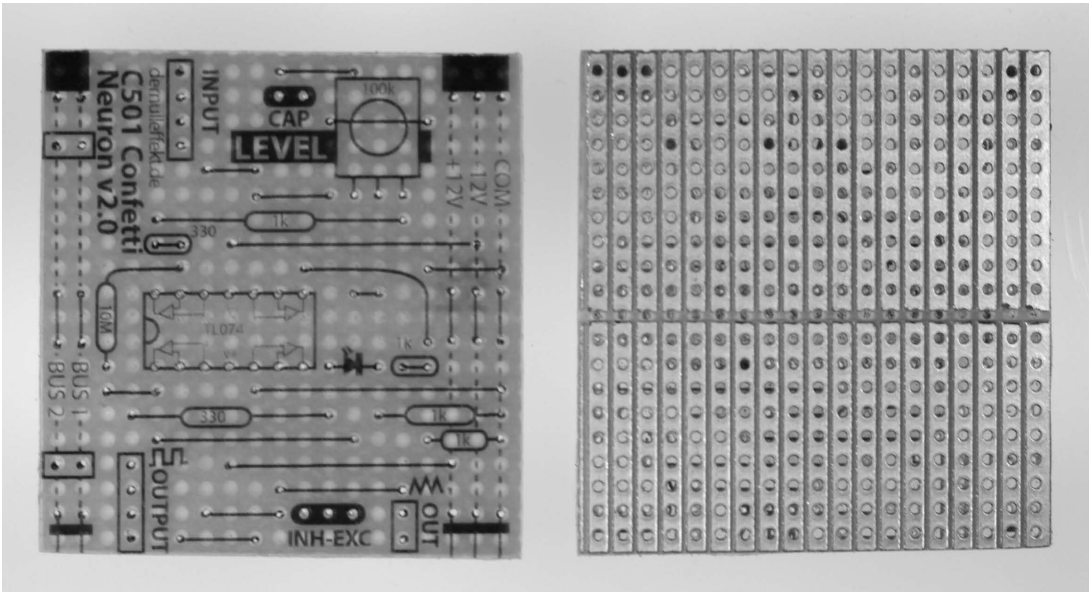

Figure 31.2 Confetti Neuron paper template laminated to strip board with cut traces.
- Use some double-sided tape to stick it on a one-sixth of a copper stripe board. Copper stripe board is different from the breadboard-mimicking printed circuit boards used elsewhere in this book (introduced in Chapter 14): the copper traces form continuous straight lines; circuit pathways are configured by cutting and bridging these lines (Figure 31.2). As you can see, the paper printout guides you through the correct configuration of the circuit.